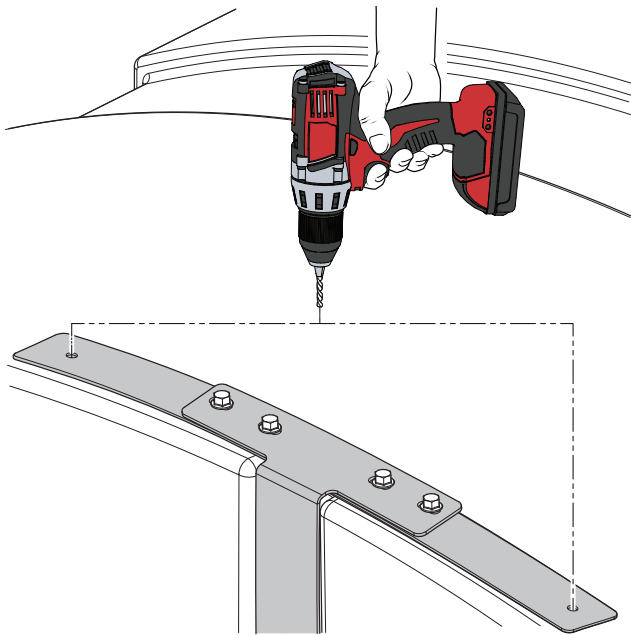

Figure 10. Drill New Holes
2. Using a 5/16" drill bit, drill a hole into the water tank at each of the marked locations (Figure 10).